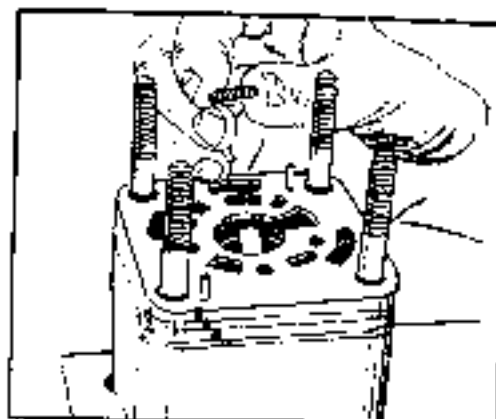

FIGURE 79.
- 31 Place the three 1/2 inch (13 mm) springs (14) into the spring pockets of the isolation manifold (15). See figure 79.